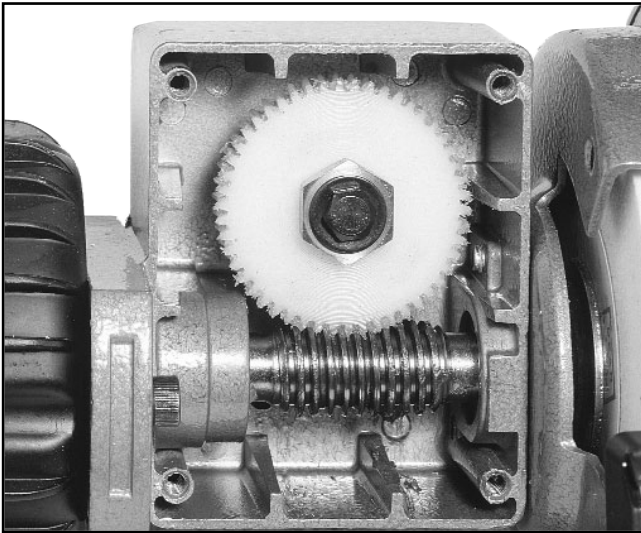

Figure 7. Gear Box cover removed.
1. Remove gearbox cover. **Figure 7.**